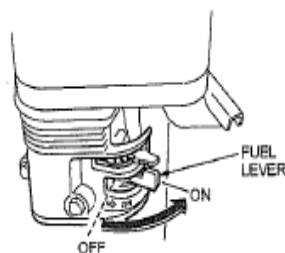

Figure 11. Fuel Valve Lever
1. Place the **fuel valve lever** (Figure 11) in the "ON" position.
3. Place the **fuel valve lever** (Figure 11) in the "OFF" position.